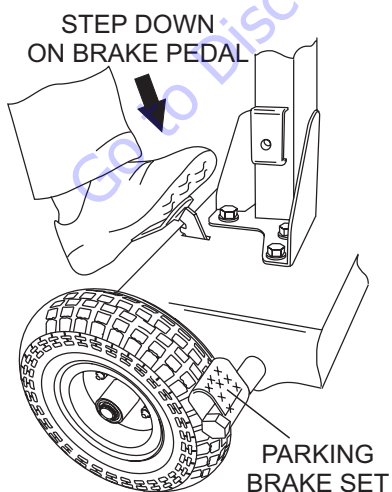

Figure 4. Parking Brake (Set Position)
2. To apply the parking brake (Figure 4), step on the brake pedal and pull back on the T-handle. This will lock the rear wheels. For additional safety, use chock blocks to prevent rolling.